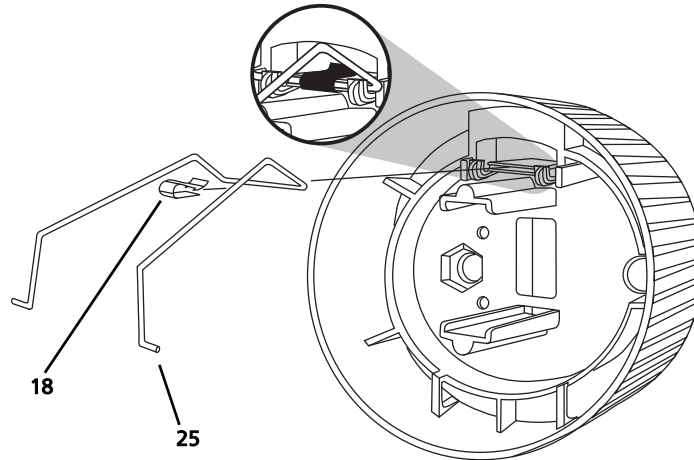

Figure 3
- 1: Set the crossbar of the retainer clip (25) under the two hooks on the clip bracket as shown in Figure 3.
- 2: Place the Tinnerman clip (18) over the retainer clip crossbar between the two hooks and press it down firmly until it snaps into place.